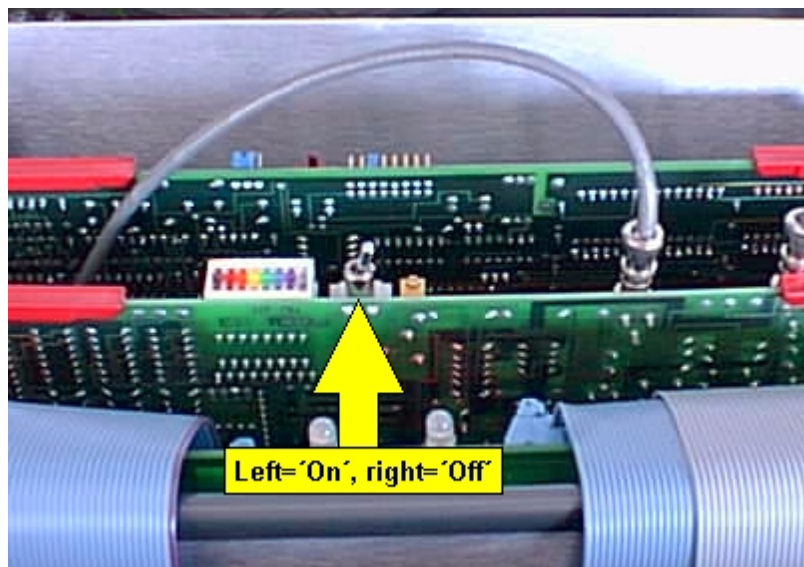

Figure 62 HT switch for the photomultiplier
2. Switch off the HT supply to the photomultiplier, as shown in Figure 62.